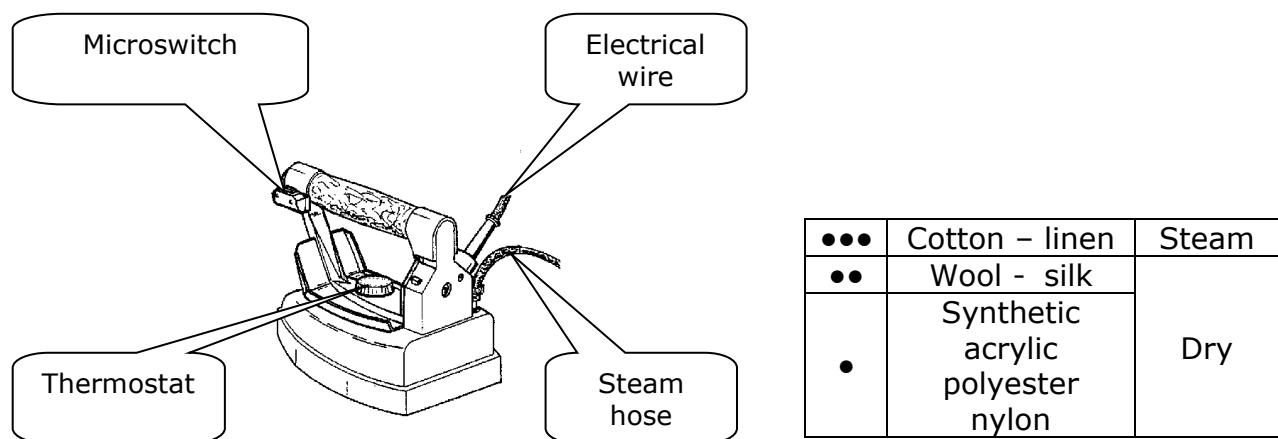

Fig. 3
1. Adjust the iron temperature (fig. 3). For dry ironing, you can set the thermostat on the various positions, depending on the type of fabric you want to iron (refer to the label instructions). For steam ironing you must necessarily adjust the thermostat on the "cotton" or "linen" position.
2. To iron, run the iron on the garments and press the micro-switch (fig. 3) of the iron at intervals so that steam comes out. At the same time press the vacuum pedal too. It is recommended to vacuum frequently and to keep the vacuum pedal pressed for a few extra seconds after the micro-switch of the iron has been released. This in order to dry the garment.